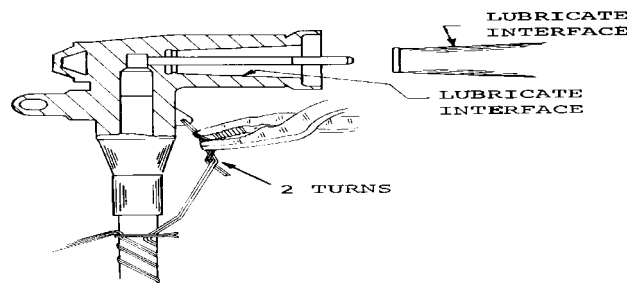

Figure 9, Attaching Ground Strands
- Tie two strands of the concentric neutral through to the grounding eye of the elbow (Figure 9) and secure.